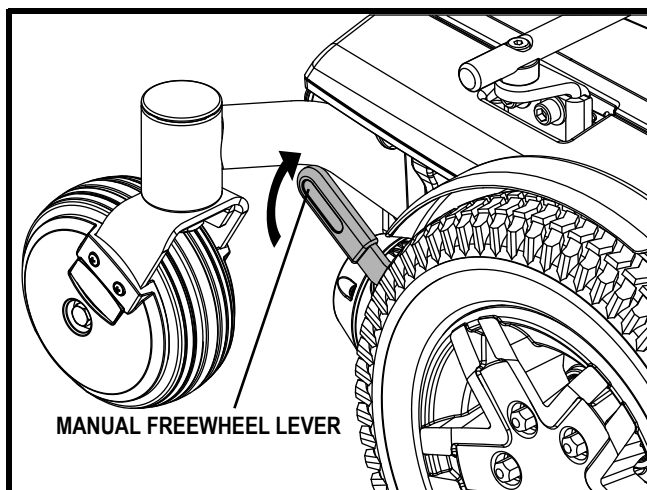

Figure 5. Drive Mode (Drive Engaged)
2. Pull up both manual freewheel levers for drive mode (drive motor engaged). See figure 5.